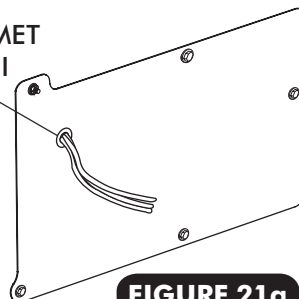

FIGURE 21a
- ROUTE A/C WIRES THROUGH 3/8" GROMMET AS SHOWN IN FIGURE 21a BELOW (12 VOLT/ GROUND/ BINARY SWITCH/ HEATER VALVE).